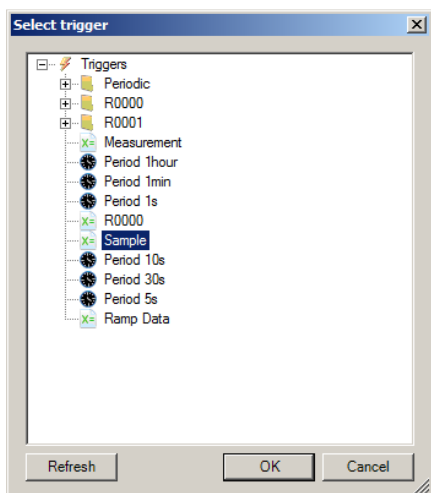

Figure 5 Select the Sample Trigger
4. Click on the button for the Trigger selection to open the trigger browser as shown in Figure 5.